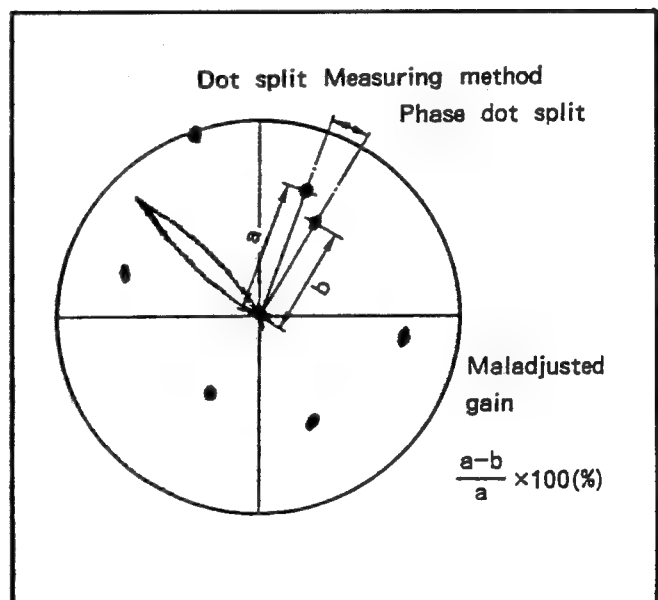

Fig. II-86
- \* Note: Measure dot split according to Fig. II-86.